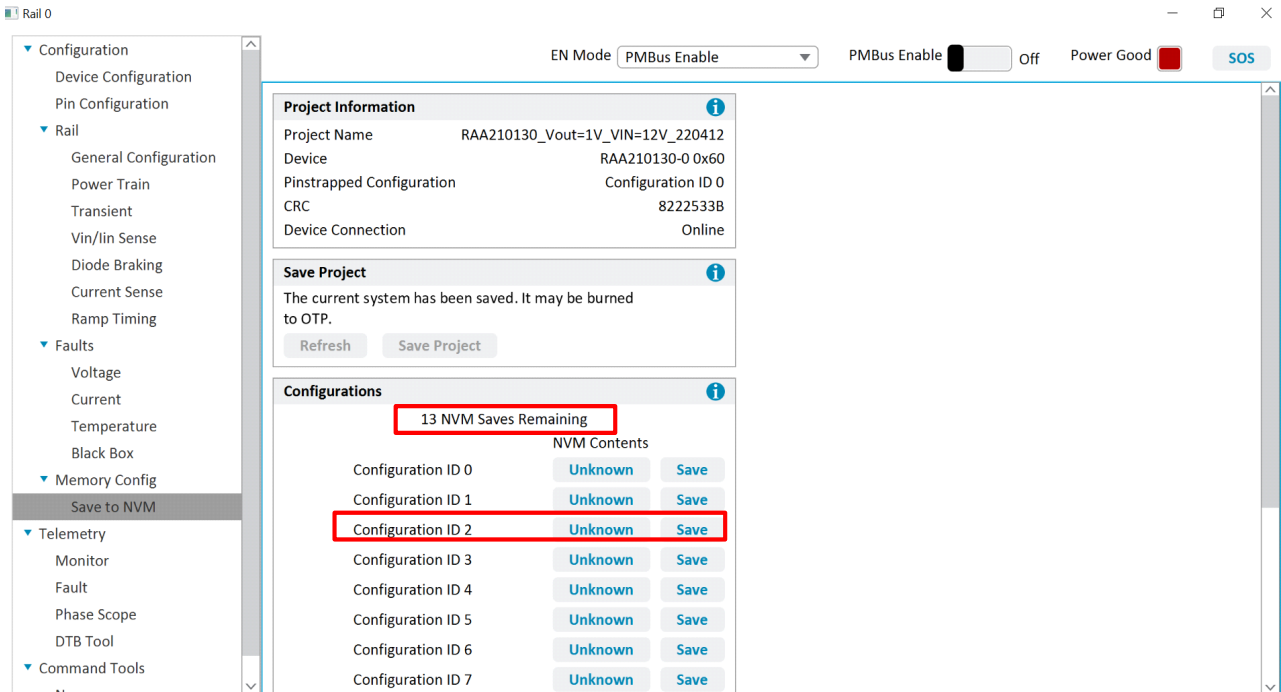

Figure 6. Save to NVM
- In the configurations window, under **Memory Config**, select **Save to NVM**. Check that the CRC number shown in Project information section is what is to be written. Under **Save Project** section, click on **Refresh**. Under the Configurations section the word Save on the right of every Configuration ID turns blue as shown in Figure 6. The first line under Configurations section shows the number of NVM saves remaining. Select a configuration to save to and hit **Save**. In this example, Configuration ID 2 is selected. The user can select any of the 16 configuration IDs.
12. After the project is saved, the word **Save** on the right of every configuration ID turns blue, as shown in Figure 6. Select a configuration to save to and hit **Save**.